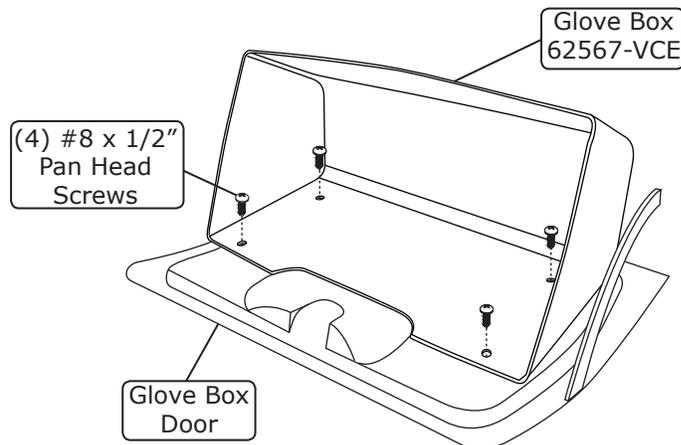

Figure 22
5. Install new glove box. Center glove box to glove box door and drill (4) 1/8" Holes. Install glove box to door using (4) #8 x 1/2" pan head screws (See Figure 22, below).